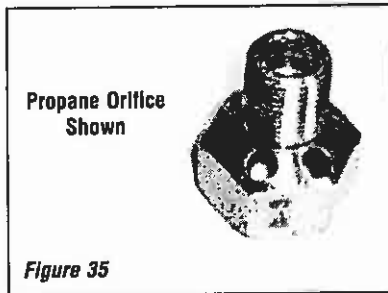

Figure 35
**Step 6.** Replace the orifice previously removed from the burner manifold and replace it with the one provided with the kit, (#46) for natural gas units and (#30) for propane (Figure 35 on page 15).